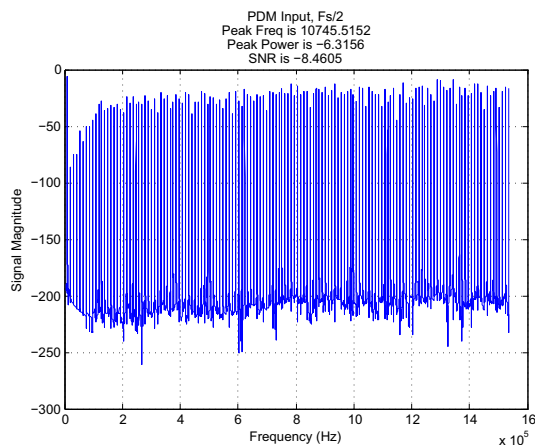
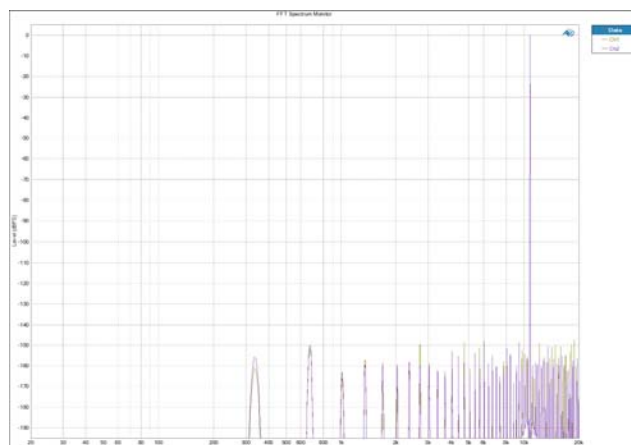
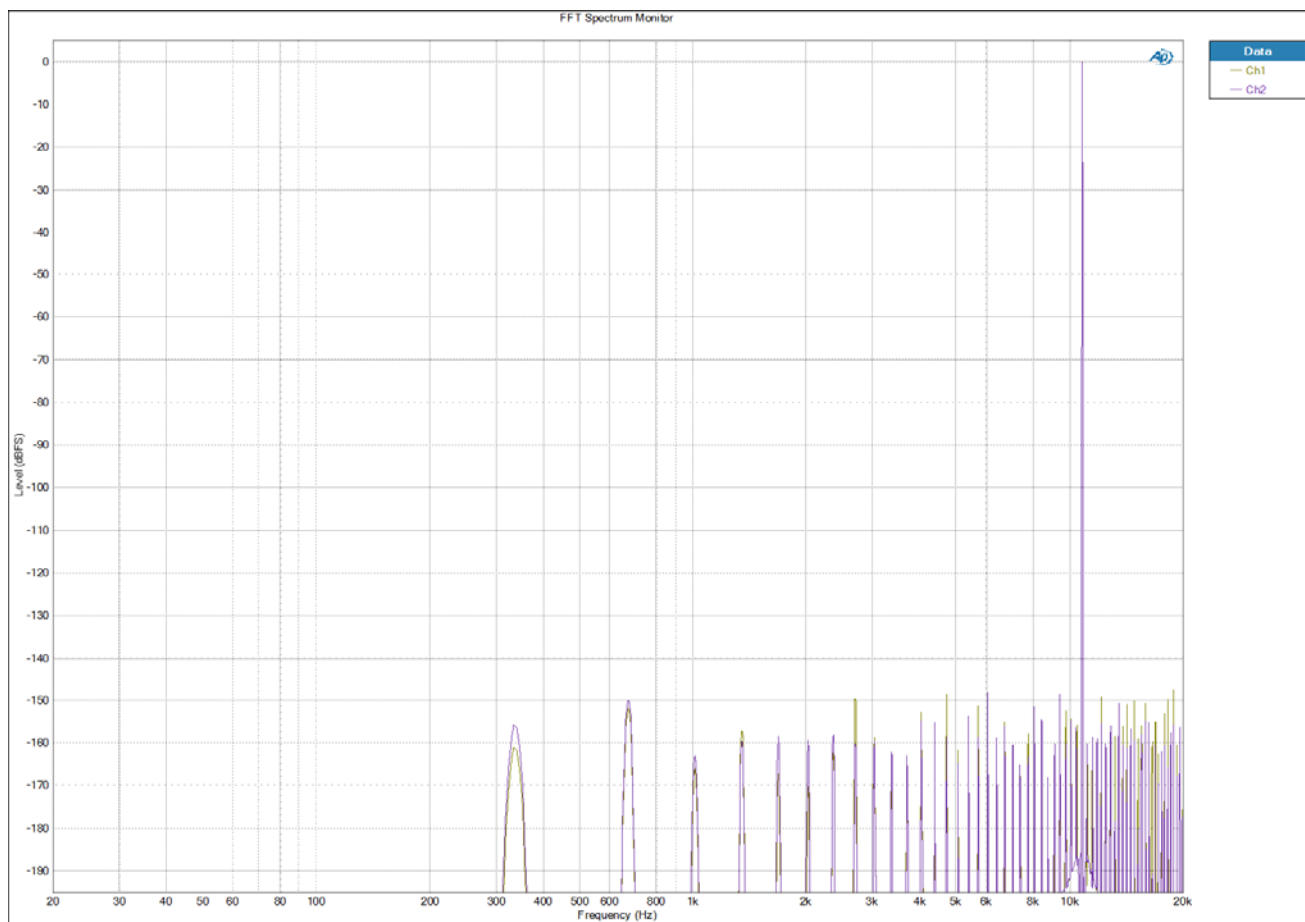

Figure 17. Specialized PDM test signal carrying a 10.745kHz sine wave
Figure 18. FFT, $F_s = 48\text{kHz}$, 0dBFS, 10.745kHz sine wave, Converted Linear PCM I2S Output from TSDP18xx
Figure 19. Zoom In of Figure 18
DVDD_IO = 1.8 V, T_A = 25°C, PDM BCLK Output = 3.072 MHz, LRCLK Input = 48 kHz, TDM format, OS Rate = 64x unless otherwise noted. The PDM audio stream used in the Table 4 was generated by the APx525 PDM Module, with a 5th order noise shaper. Measurements are without A-Weighting or AES-17 filter unless otherwise noted. The performance results are limited by the measurement equipment and not the design. Please refer to the SNR / DNR / THD+N Level footnote and corresponding performance plots Figure 17, Figure 18 and Figure 19 as to how this measurement was captured.
1. The > 142dB SNR / DNR / THD+N Level performance number was generated using a generated PDM data source. Please refer to Figure 17, Figure 18, and Figure 19 and the associated Figure text descriptions to learn more about how the PDM data source was generated and also how these measurements were taken.